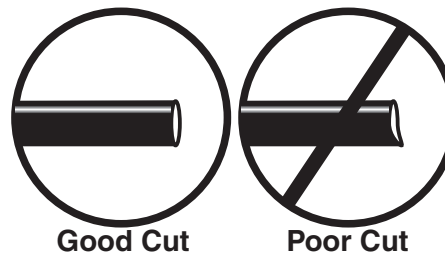

fig. 24
WHEN CUTTING OR TRIMMING THE AIR LINE, USE A HOSE CUTTER, A RAZOR BLADE, OR A SHARP KNIFE. A CLEAN, SQUARE CUT WILL ENSURE AGAINST LEAKS. DO NOT USE WIRE CUTTERS OR SCISSORS TO CUT THE AIR LINE. THESE TOOLS MAY FLATTEN OR CRIMP THE AIR LINE CAUSING IT TO LEAK AROUND THE O-RING SEAL INSIDE THE ELBOW FITTING (FIG. 24).
- a. Check the air line connection by deflating the spring and removing the line by pulling the collar against the fitting and pulling firmly on the air line. Trim 1” off the end of the air line. Be sure the cut is clean and square (see fig. 24). Reinsert the air line into the push-to-connect fitting.